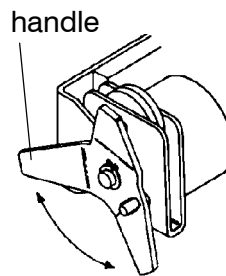

Figure 1-6. Attached maintenance handle on 30, 70, and 104 amp. B-design and 150 and 200 amp. C-design transfer switches
*30, 70, and 104 amp. B-design and 150 and 200 amp. C-design* See Figure 1-6.